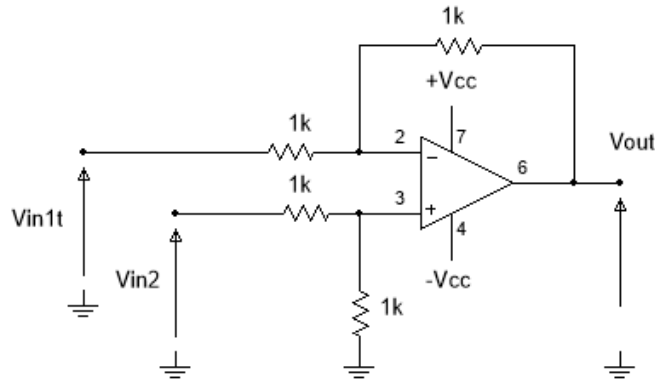

Figure 7 – Subtractor circuit
- 3) The circuit in Figure 7 works as a subtractor circuit, that is, it subtracts one voltage from another. Calculate the output voltage of the circuit in Figure 7 for each of the input voltage combinations in Table 3.